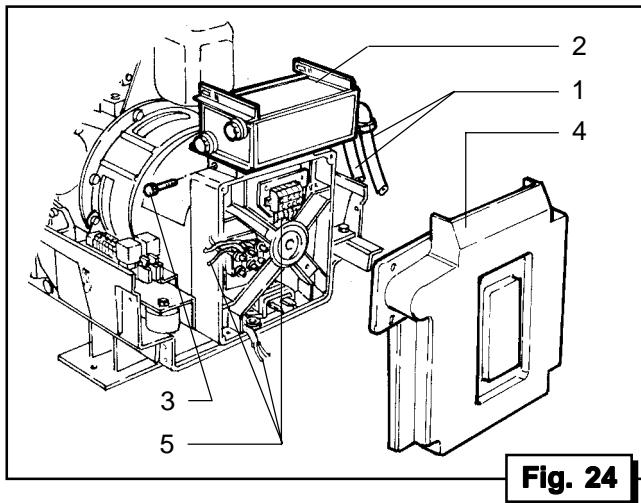

Fig. 24
- Collegare dallo scambiatore i tubi acqua (Fig. 24, Rif. 1)
- Togliere il coperchio in plastica (Fig. 24, Rif. 4).
- Togliere le viti di fissaggio (Fig. 24, Rif. 3) e rimuovere lo scambiatore (Fig. 24, Rif. 2).
- Collegare i cavi dell'alternatore (Fig. 24, Rif. 5).
- Disconnect the water hoses from the heat exchanger (Fig. 24, Ref. 1).
- Remove the plastic cover (Fig. 24, Ref. 4).
- Remove the screws (Fig. 24, Ref. 3) and the heat exchanger (Fig. 24, Ref. 2).
- Disconnect the cables from the terminal board (Fig. 24, Ref. 2).
- Disconnect the alternator cables (Fig. 24, Ref. 5).